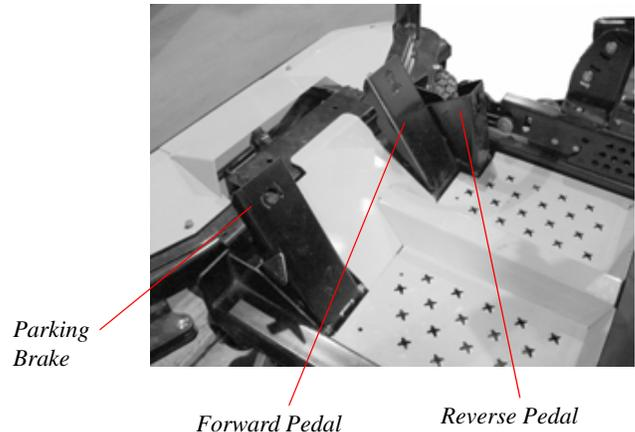

Figure. 6
3. **Speed Control Pedals:** (See Figure 6.) The pedals control all of the speed and direction movements of the mower. Pushing the forward pedal causes the mower to move forward. Pushing the reverse pedal causes the mower to move backward.
5. **Parking Brake:** (See Figure 6.) Located on the left side of the traction unit. The Park brake pedal applies the drum-type brake on each of the drive wheels when the pedal is pushed. The park brake must be engaged in order to start the engine. **To engage**, push the latch on the side of the pedal and the pedal downward until it latches. **To release**, push the pedal downward (not the latch) and release.